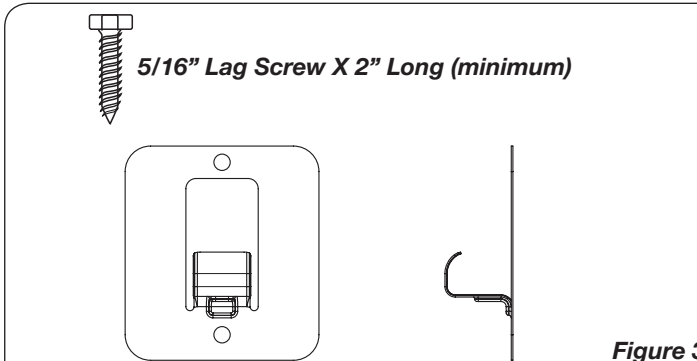

Figure 3
Your fan may be wall mounted using the new QuickMount® wall bracket supplied with your fan. (Figures 3 and 4)
3. Fasten wall bracket to mounting surface using 2 appropriately sized fasteners 5/16" lag screw x 2" long (minimum). Drill pilot holes as necessary. (See Figure 3).